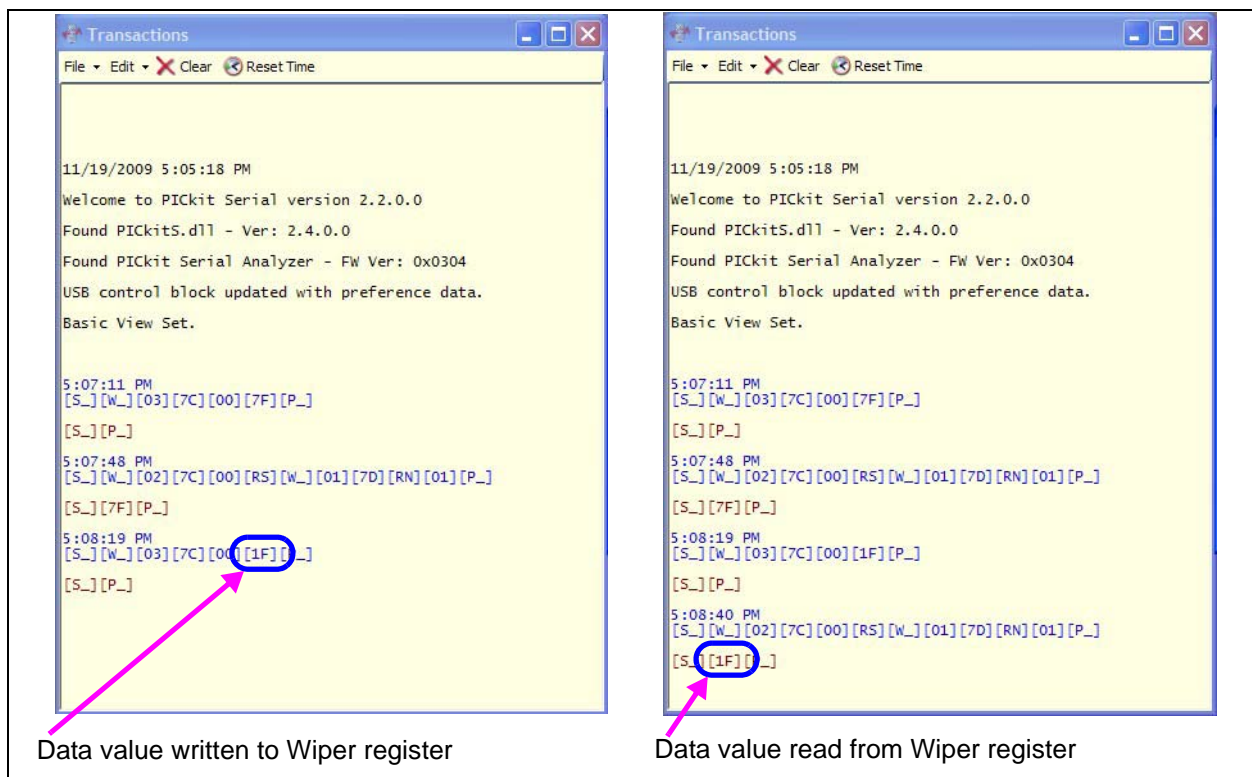

FIGURE 2-16: MCP40D18 Transaction Windows 3 and 4.
15. Click on the “Execute Script” button. This executes the script shown in the script detail column, which will update the wiper value to 1Fh (from 7Fh). The Wiper voltage will now be $\sim 1/4 * V_{DD}$ ($\sim 1.25V$). The Transaction window (see Figure 2-16) will be updated to indicate the execution of the script.
17. Click on the “Execute Script” button. This executes the script shown in the script detail column. The Transaction window (see Figure 2-16) will be updated to indicate the execution of the script. The Data read is shown in the last line.